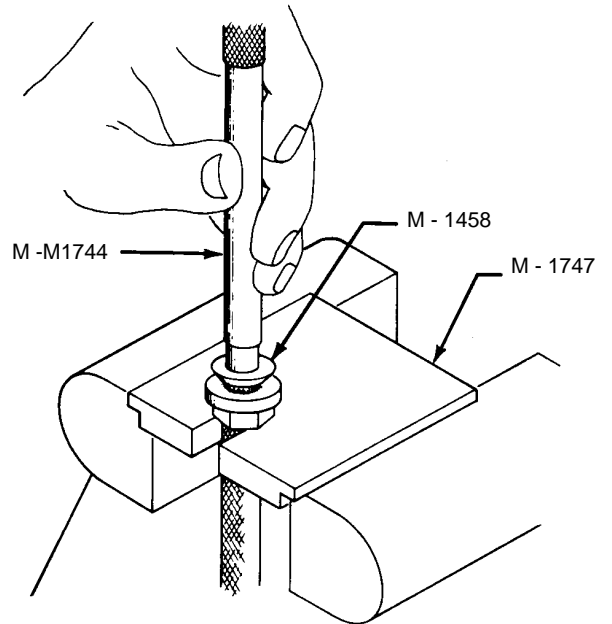

Figure 8-21 Driving Tool
- j. For spark plug end, mount M-1747 Drive Plate in a bench vise. Set the hex ferrule in the slot of the drive plate. Drive the M-1458 Drive Ferrule flush against the hex ferrule using the M-1744 Drive Tool. Refer to Figure 8-21.